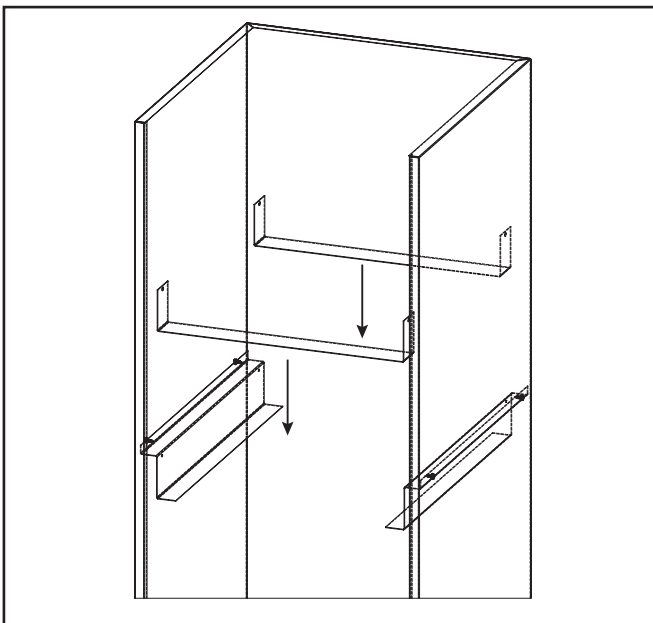

Figure 2.
2. Screw in the front and back brackets from inside the cabinet to the side brackets (Figures 2 & 3).